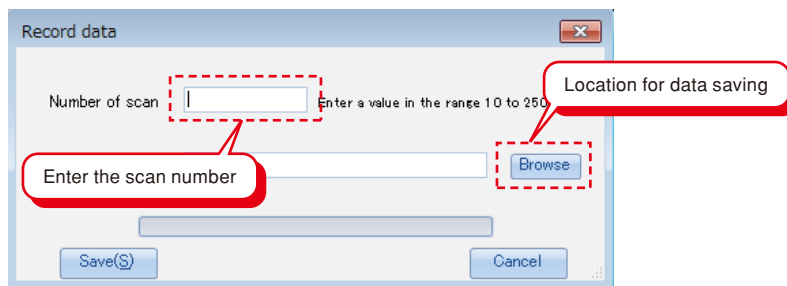

Figure 7-59. Data logging
- c) A window is displayed requesting for the scan number and saving location as shown in figure 7-59.